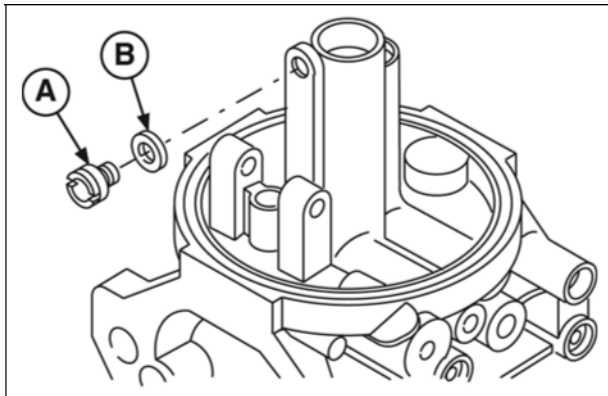

Figure 31
5. Remove fixed main jet (**A**, Figure 31) and gasket (**B**). Discard gasket.